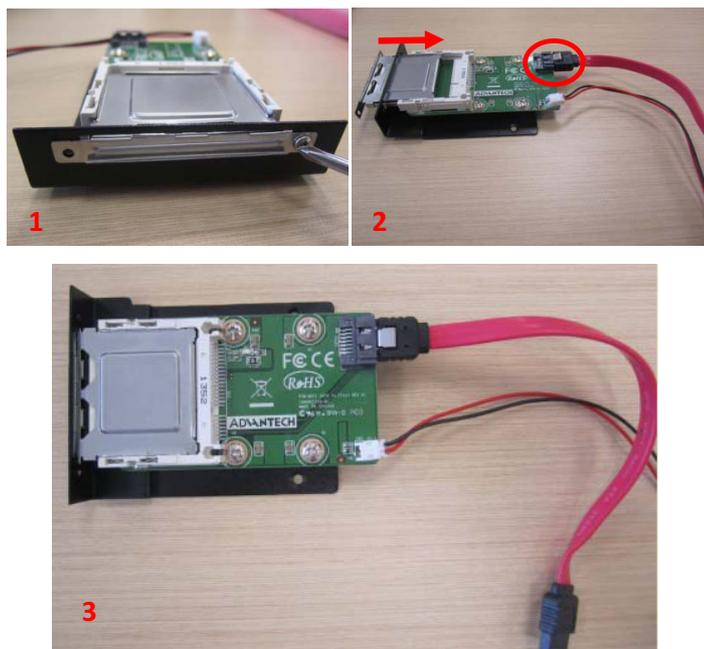

Figure 2.37
4. Take the CFast module out of module box and remove the two screws on its side. Fix the metal tray to the top of CFast card, and insert it in the direction as indicated in the below figure. Then tighten the two screws and connect the red SATA cables. (See Figure 2.37)